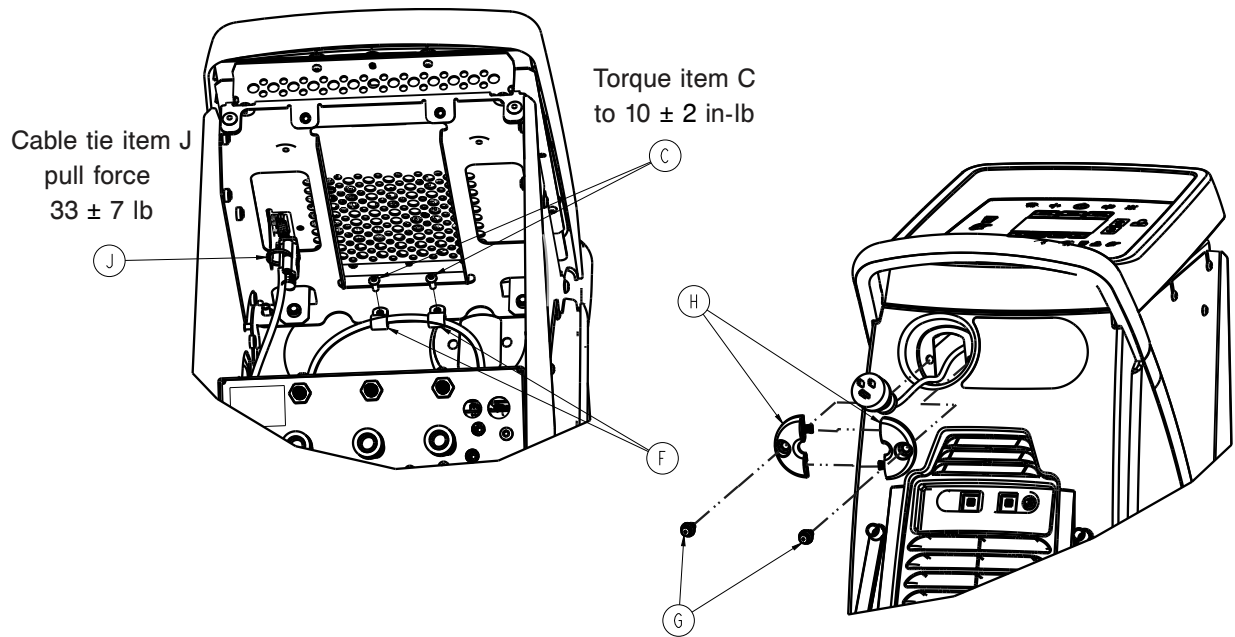

Figure 15 – Power cord to the top bracket
4. Using a T25 Torx driver, remove the two screws (C) and cable clamps (F) that secure the power cord to the top bracket (Figure 15). Save the screws and cable clamps.